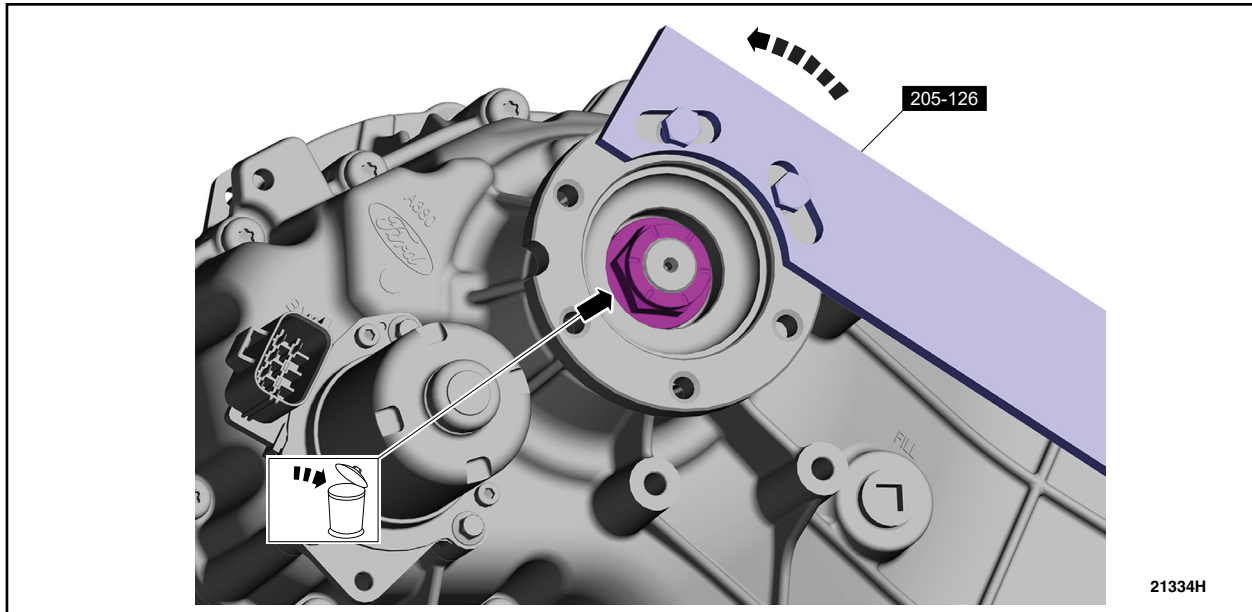

FIGURE 8
19. Using Special Service Tool (205-126 Holding Fixture, Drive Pinion Flange), hold the flange, remove and discard the flange nut. See Figure 8.